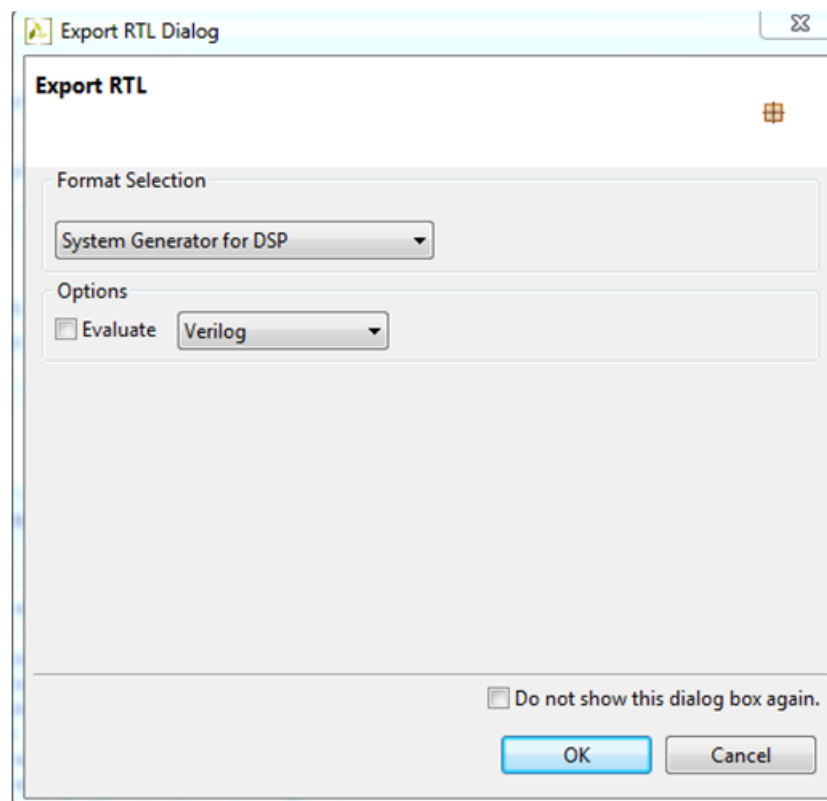

Figure 3-16: RTL Export Dialog
10. When the Export RTL menu opens, select **System Generator for DSP** from the drop-down menu (Figure 3-16).
**Note:** If RTL synthesis was executed to evaluate the design, the results of RTL synthesis are not included in the export package. They are only provided as an evaluation check, not part of the IP, and hence they are stored in the `solution/impl/<HDL>` directory (verilog or VHDL, depending on the selection made in Figure 3-16). The RTL IP should be re-synthesized with the complete design to obtain the final results (after the entire design is placed and routed).